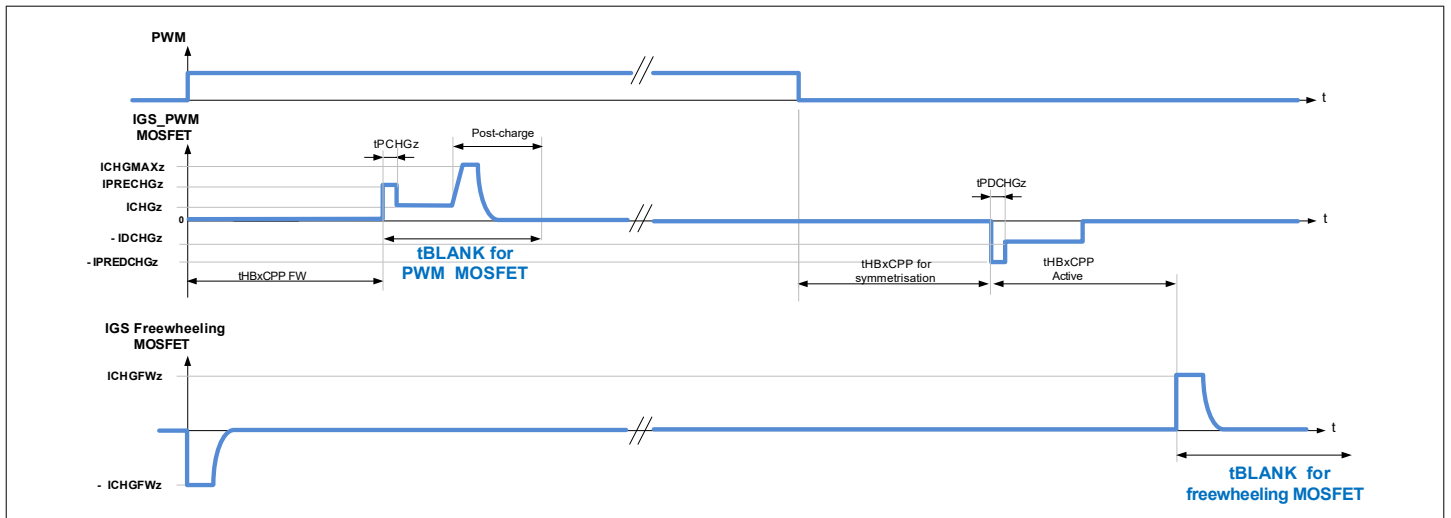

Figure 33 Blank time for half-bridges in PWM operation, detection of generator mode disabled (EN_GEN_CHECK = 0)
- The blank time of the PWM MOSFET starts at the expiration of the cross-current protection time of the FW MOSFET (tHBxCCP FW). Refer to Figure 33.
- The blank time of the FW MOSFET starts after expiration of the cross-current protection time at turn-off of the PWM MOSFET (tHBxCCP Active). Refer to Figure 33.